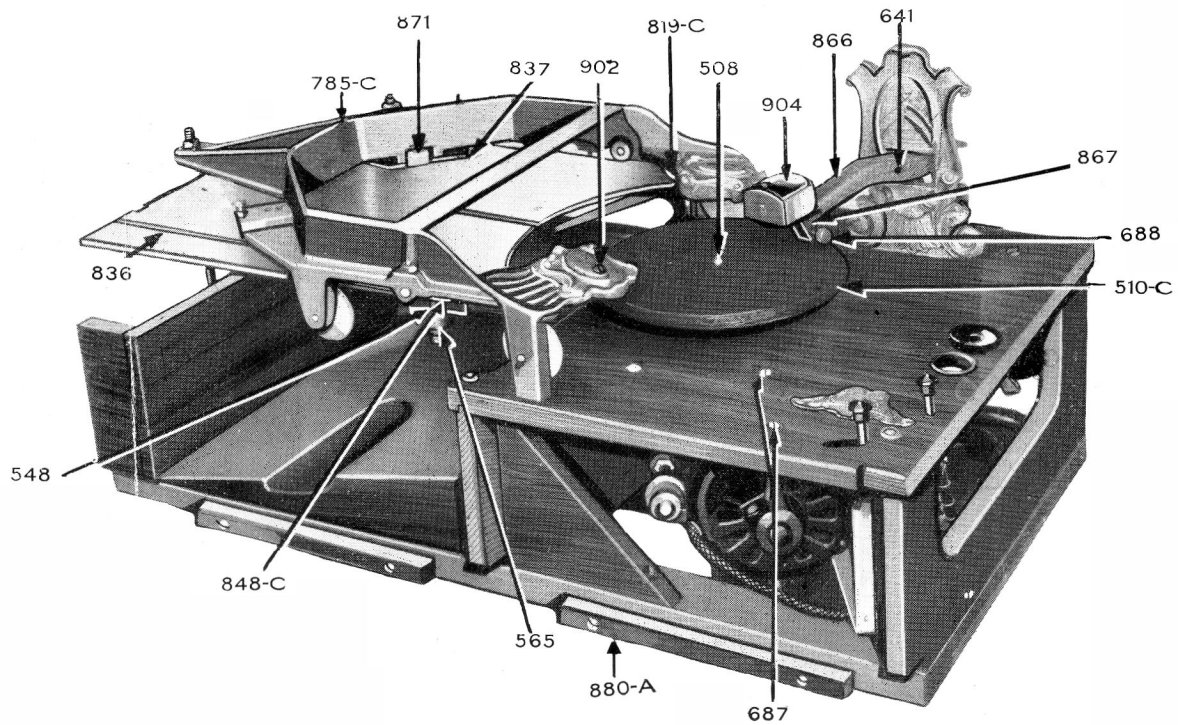
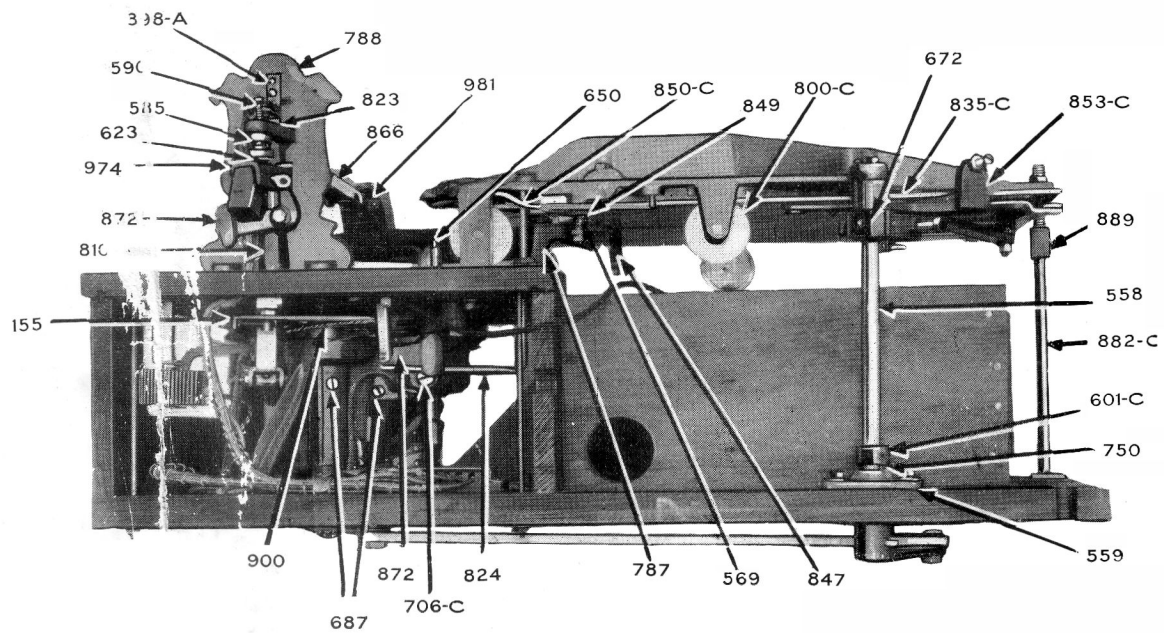

FIGURE 3
FIGURE 4
Dog No. 813 *figure 2* for eccentric groove records and Spiral Trip Dog No. 533 for spiral groove records is attached to Pick-up Arm Lever No. 811 by means of Adjusting Stud No. 860 and Adjustment for Pick-up Lever No. 812. Pick-up Arm Lever No. 811 is attached to Pick-up unit No. 904 *figure 3* by means of Yoke No. 867 and Pick-up Arm No. 866 which is connected to Bracket No. 810 *figure 4*, onto which Pick-up Arm Lever No. 811 *figure 2* is attached by means of two screws No. 155 *figure 4*. This whole device is allowed to swing from right to left due to its attachment to Standard No. 788 by the Dog Point Set Screws No. 823 which fit into the Bearing in Bracket No. 810.
Returning to the action of Cam No. 789 *figure 1* as it rotates further, Turntable No. 510-C drops to the discard position, allowing the record to come in contact with discard Rubber No. 650 *figure 4*. This raises the record above Receiving Stud No. 508 *figure 3* and the rotation of Turntable No. 510-C then causes the record to be discarded into the Receiving Compartment.
When Cam No. 789 *figure 1* starts to revolve, Eject Arm No. 790 *figure 2* also starts to revolve as it is driven by Dog No. 522. Roller No. 552 attached to Eject Arm No. 790, travels in the slot in Drive Lever No. 550 and causes it to move from the left to right, which moves Eject Slide No. 835-C and brings the center of the record over Receiving Pin No. 508 *figure 3* in Turntable No. 510-C. This motion is caused by Drive Lever No. 550 *figure 2* acting thru Link No. 852 attached to Lever No. 865 which is pinned to Shaft No. 558 connected to Top Lever No. 853-C which acts on Transverse Lever No. 854-C thru Link No. 856. The Transverse Lever is connected to the Twelve inch record Regulating Lever No. 859 which is fastened to Eject Slide No. 835-C by means of the Stud in the "L" shaped slot. This Stud remains in the "L" end of Lever No. 859 and allows Slide No. 835-C to place a ten inch record in the proper position over Receiving Stud No. 508 *figure 3*.
In case a twelve inch record is on the Slide, Centering Lever No. 850-C *figure 4* is pushed out by the record to a position where its tail end trips the twelve inch Regulating Lever No. 859 *figure 2*. Eject Slide No. 835-C moves forward, causing the Stud to leave the "L" end of the slot in Lever No. 859 allowing Eject Slide No. 835-C to travel just far enough to place a twelve inch record over Receiving Stud No. 508 *figure 3*.
Ten or twelve inch records can be used without discrimination. The engagement of the needle on ten or twelve inch records is controlled by Engaging Regulator Weight No. 872 *figure 4* acting on Cable No. 900 which is attached to Index Lever No. 815 *figure 2*. When the Weight is allowed to Act, Index Lever No. 815 is pulled over and the long slot
engages on Pin No. 763 *figure 1* causing the Pick-up Unit to swing into the proper place to engage on a 12" record. If Regulator Weight No. 872 *figure 4* is not allowed to act, Index Lever No. 815 *figure 2* is carried over by means of Drag Link No. 530 *figure 1* so that the short notch engages on Pin No. 763 and the needle engages at the proper place to start a 10" record. Whether or not the Weight No. 872 *figure 4* is allowed to act depends on Shaft No. 824 which, when under Weight No. 872, keeps the Weight from acting, Shaft No. 824 is controlled by Engaging Regulator Arm No. 787.
When a 12" record is fed out, Centering Lever No. 850-C *figure 4* is pushed out. The Finger on it carries Arm No. 787 out with it, swinging end of Shaft No. 824 from under Weight No. 872, allowing No. 872 to act. Shaft No. 824 will remain in this position until a 10" record is fed out of the Hopper. Thus, a 12" record may be repeated on the Turntable as many times as desired. When a 10" record is fed out of the Hopper, Eject Slide No. 835-C *figure 2* goes out farther over the Turntable, allowing Pin No. 887 to come in contact with Arm No. 787 causing it to move so that Shaft No. 824 takes a position under Weight No. 872 and prevents it from acting. This position will be held until a 12" record is fed out of the Hopper, thus, a 10" Record will continue to repeat until the position of Shaft No. 824 is changed.
At this time Pin No. 763 *figure 1* has revolved far enough to connect with either the ten or twelve inch notch in Index Lever No. 815 *figure 2*. Its further revolution causes the Pick-up to swing in over the record so the Needle rests on the smooth part of the record as the Turntable is raised to reproducing elevation by means of Cam No. 789 *figure 1*. Regulating Weight Lever No. 872 *figure 4* on Standard No. 788, now causes the Pick-up to move over from the smooth part of the record to the first reproducing groove. Reproduction of the record begins at once.
When Eject Slide No. 835-C *figure 4* comes forward, the bottom record is caught between the "V" shaped plates No. 836 and No. 837 *figure 3* which brings the bottom record forward with the Slide. The other records slide over the top of these "V" shaped plates and remain in the Hopper. Only the bottom record is allowed to come out of the Hopper onto the Turntable. Other records are prevented from coming out by means of the two Admitters No. 819-C which are devised so they gauge themselves according to the thickness of the record. Thick, thin or warped records are fed out thru the action of the admitters without injury to the records or mechanism. The admitters are held down against the record by means of springs and are adjusted by Screws No. 902. Back Stops No. 871 prevent records from sliding too far back in Hopper.
If a ten inch record is on the bottom and is not in the center, it is forced in the center by the two Centering Levers No. 850-C *figure 4* and No. 848-C *figure 3* which are held in position under tension by Springs No. 569 *figure 4* and No. 565 *figure 3*. These Springs are right and left hand and are attached to bushings in Studs, which have right and left hand threads and have a tendency to keep the spring from unscrewing the studs and nuts which hold them.
These Springs hold the Centering Lever against the Stop Pins which are so set that they hold the Centering Levers just the right distance to allow a 10" record to pass thru with a slight amount of tension. In case a 12" record is on the bottom, these Springs are allowed to open up and the Centering Lever No. 850-C *figure 4* acts to trip the mechanism as described under the paragraph about Slide Movement for 12" records.
Clutch Switch No. 896-A in a Bracket No. 876 *figure 1* is operated by Clutch Lever No. 816-C by means of a fibre switch Opener, the purpose of this switch is to allow switch No. 898-A *figure 4* to be opened when the Clutch is engaged and the Cam is in motion. This carries the current whenever Clutch is in motion and the Pick-up Unit is not resting on a Record.
Pick-up Switch No. 898-A *figure 4* is attached to the back of Standard No. 788. When the Pick-up is not resting on a record,
the Pick-up Arm drops down, swiveling at Trunion Pin No. 641, *figure 3*. This allows the Brake Shoe on Pick-up Arm No. 866 to rise and press against Cork insert No. 623 *figure 4* which is in the Brake Adjustment No. 585. This retards the Swinging action of the Pick-up and allows it to move only when forced by Index Lever No. 815 *figure 2*. This Brake Adjustment No. 585 can be regulated to bring the Pick-up to the height desired and is locked in place by a nut. Thru the center of Brake Adjustment No. 585 is a Fibre Rod No. 590 *figure 4* which also rests
AUTOMATIC MECHANISM GEARS AND BEARINGS. Grease once every year. Use nothing but a good grade of grease of about the consistency of vaseline, mixed with graphite if possible. In the main body casting, housing the turntable shaft and worm gears two (2) pipe plugs No. 687 *figure 4* marked "Grease" are located. Remove these Plugs and inject a small quantity of grease in the openings.
ADMITTER ASSEMBLY 819- FIGURE 3. Use Adjusting Screw No. 902. Turning this screw in a clockwise direction raises the end of the admitter higher. The height of the admitter should be just enough to touch a record on the Eject Slide No. 835-C, *figure 2*, when the slide is out.
THE NEEDLE ENGAGING REGULATOR SHAFT NO. 824. Loosen Set Screw in Arm No. 787, *figure 4*, and move Shaft No. 824 to the required position. When a 10" record is on the turn-table being reproduced, Shaft No. 824 should be under Weight No. 872.
THE HEIGHT OF NEEDLE ABOVE RECORD. Use Adjusting Screw No. 585, *figure 4*. This adjustment should be made immediately after the pickup unit has swung in and just before the turn-table rises. When the turn-table is in this position, the needle should be $\frac{1}{8}$ inch above the record.
FORWARD STOP OF EJECT SLIDE. Use the screw in Top Lever No. 853-C, *figure 4*. The Eject slide should carry out a 10 inch Victor record to a distance where the tip of Receiving Stud No. 508, *figure 3*, enters the hole in the record at the front side of the hole.
PICKUP SWITCH NO. 898-A, FIGURE 4. This switch is adjusted by loosening the two screws by which it is fastened to standard No. 788 and moving it up or down so the contacts will close when the pickup unit is on a record in reproducing position.
END PLAY IN DRIVE SHAFT NO. 793, FIGURE 1. Use Adjusting Screw No. 706-C, *figure 4*. The end play in this shaft should be just enough to be detected when shaft is moved back and forth by hand. If end play is too great, the reproduction of a record will have a wavering effect.
SPRING TENSION ON CENTERING LEVER NO. 848-C and 850-C, FIGURE 4 and 3, RESPECTIVELY. Use Adjusting Screws No. 847 and No. 849, *figure 4*. The spring tension on these levers must be equal and sufficient to hold the center of a record in a line with Receiving Stud No. 508, *figure 3*. If the tension is insufficient or unequal, Eject Slide 835-C, *figure 2* will not center the record over turn-table No. 510-C. Loosen these screws and turn them to the right or left to increase or decrease tension as the case demands.